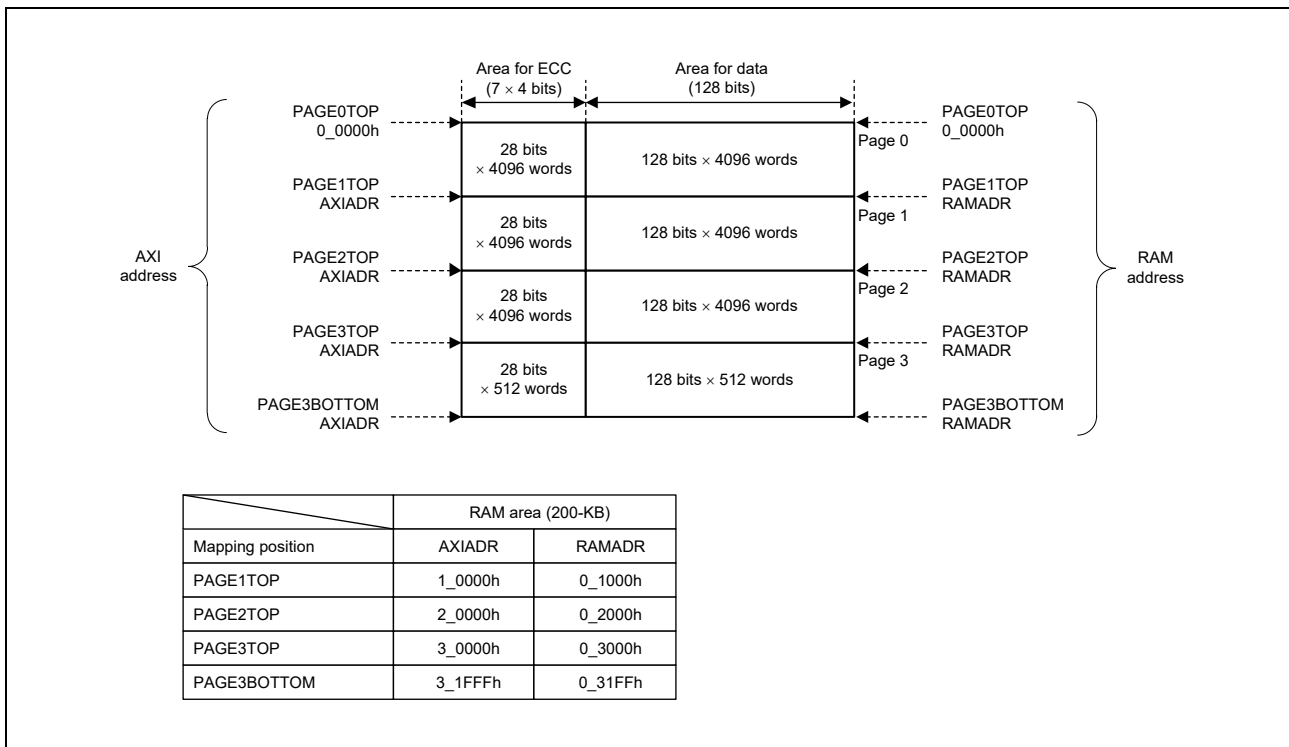
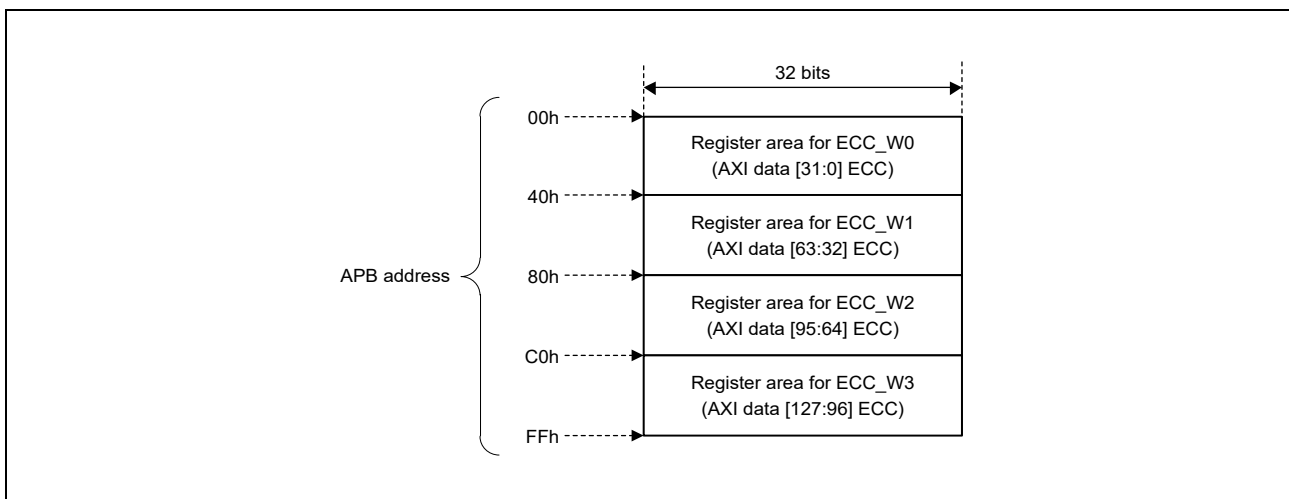

Figure 12.3-1 Memory Map of RAM
Figure 12.3-2 Memory Map of Register
**Figure 12.3-1** shows the retention RAM area. **Figure 12.3-2** shows the register area.